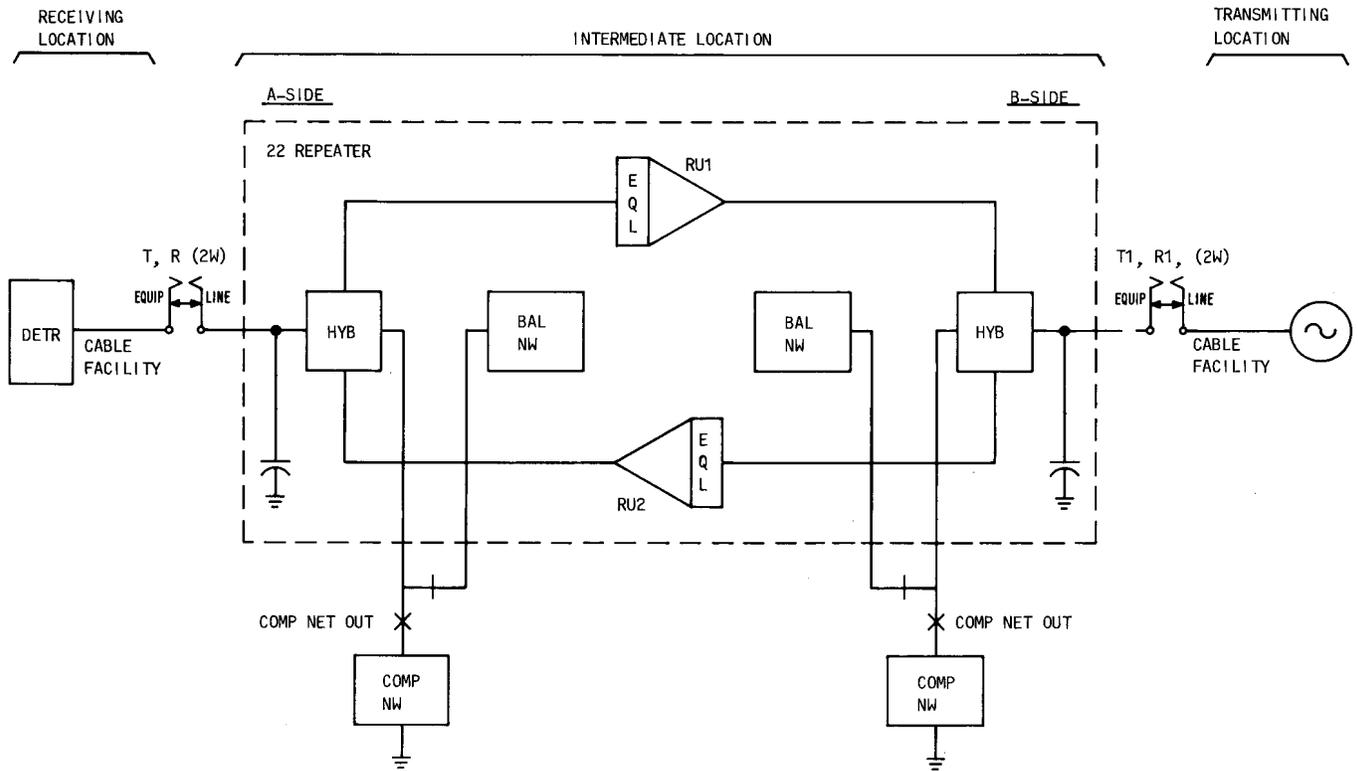

Fig. 7—Test Configuration for Intermediate Repeater Frequency Response Measurements
7.05 A separate procedure is given for repeaters in an intermediate location. Fig. 7 is the test arrangement showing the three locations involved. This arrangement and the following procedure has the transmitting location on the B-side of the repeater. This arrangement is arbitrary and, if reversed, the amplifier designations (RU1, RU2) given in the procedure must also be reversed.